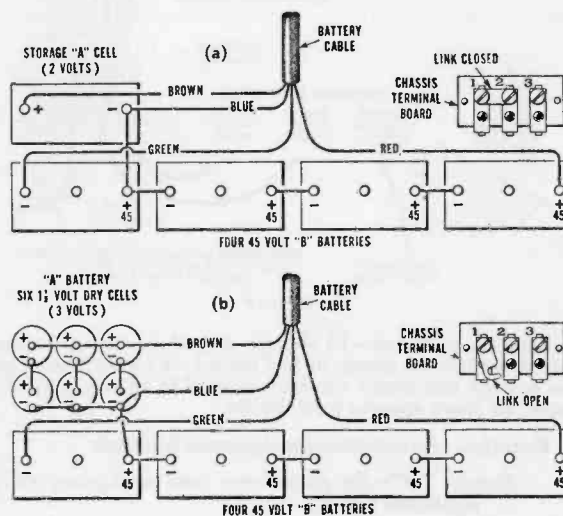

Figure 2
Make certain that the On-Off Switch (Figure 3) is in the "off" position, counter-clockwise. Then connect the batteries as illustrated in Figure 2, (a) or (b), according to the type of "A" battery used.
**Important**—When using 3-volt "A" supply as shown in Figure 2 (b), be sure to open the link connecting terminals 1 and 2 on the rear of the chassis. For 2-volt "A" supply as in Figure 2 (a), the link should be closed. The proper link position is shown by the inset in each diagram.